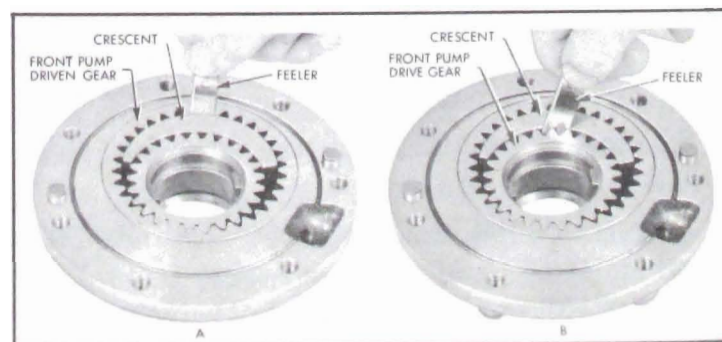

Figure 5-67—Checking Clearance Between Crescent and Gears
driven gear to check clearance, which should be .005" to .009" on front pump and .0045" to .007" on rear pump. See figure 5-67, view A.
8. Insert feeler gauge between crescent and *driving* gear to check clearance, which should be .010" to .016" on front pump and .006" to .012" on rear pump. See figure 5-67, view B.
3. Lubricate and install gears in front pump body. The driving gear must be installed with the beveled side outward so that this side will be against the cover when pump is installed. See figure 5-67. *Reversing this gear in pump body will result in severe damage to the transmission.*